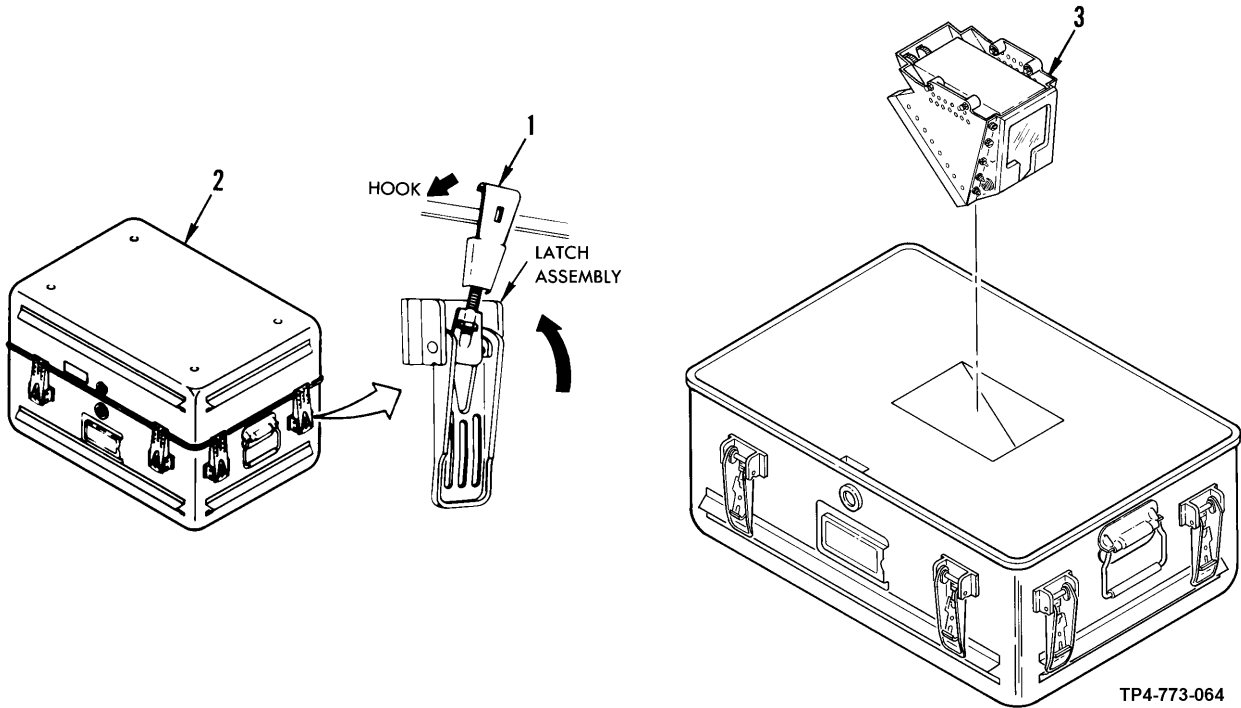

Figure 5-3. Control Panel Assembly Installation into Shipping and Storage Container
- a. Open container latches (1, figure 5-3).
- b. Remove container lid (2) and set aside in a clean dry area.